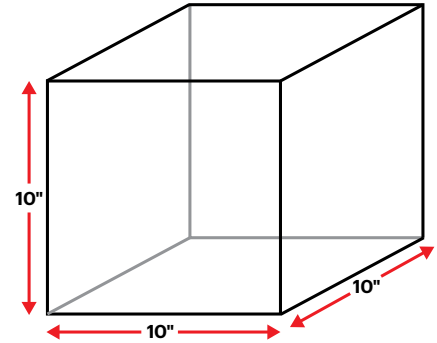

Figure 2. Maximum Launch Envelope
2. Maximum launch envelope: 10" x 10" x 10" [25.4 cm x 25.4 cm x 25.4 cm]. See Figure 2.